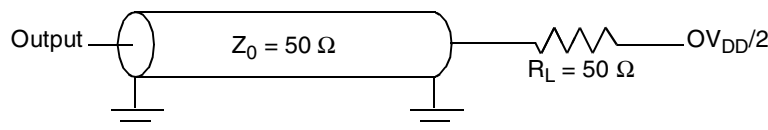
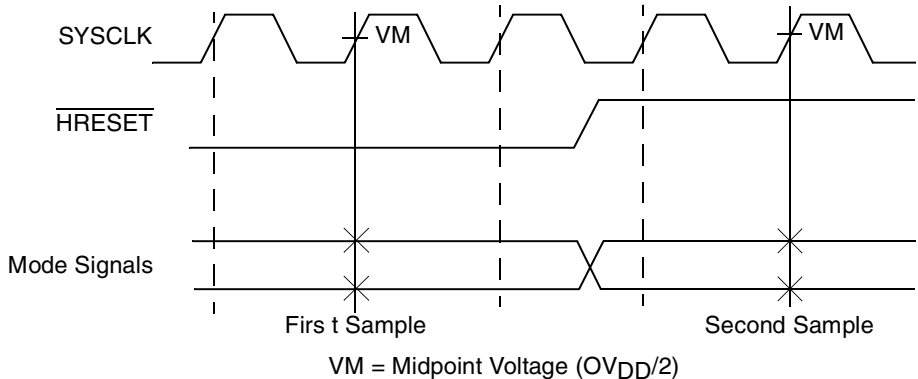
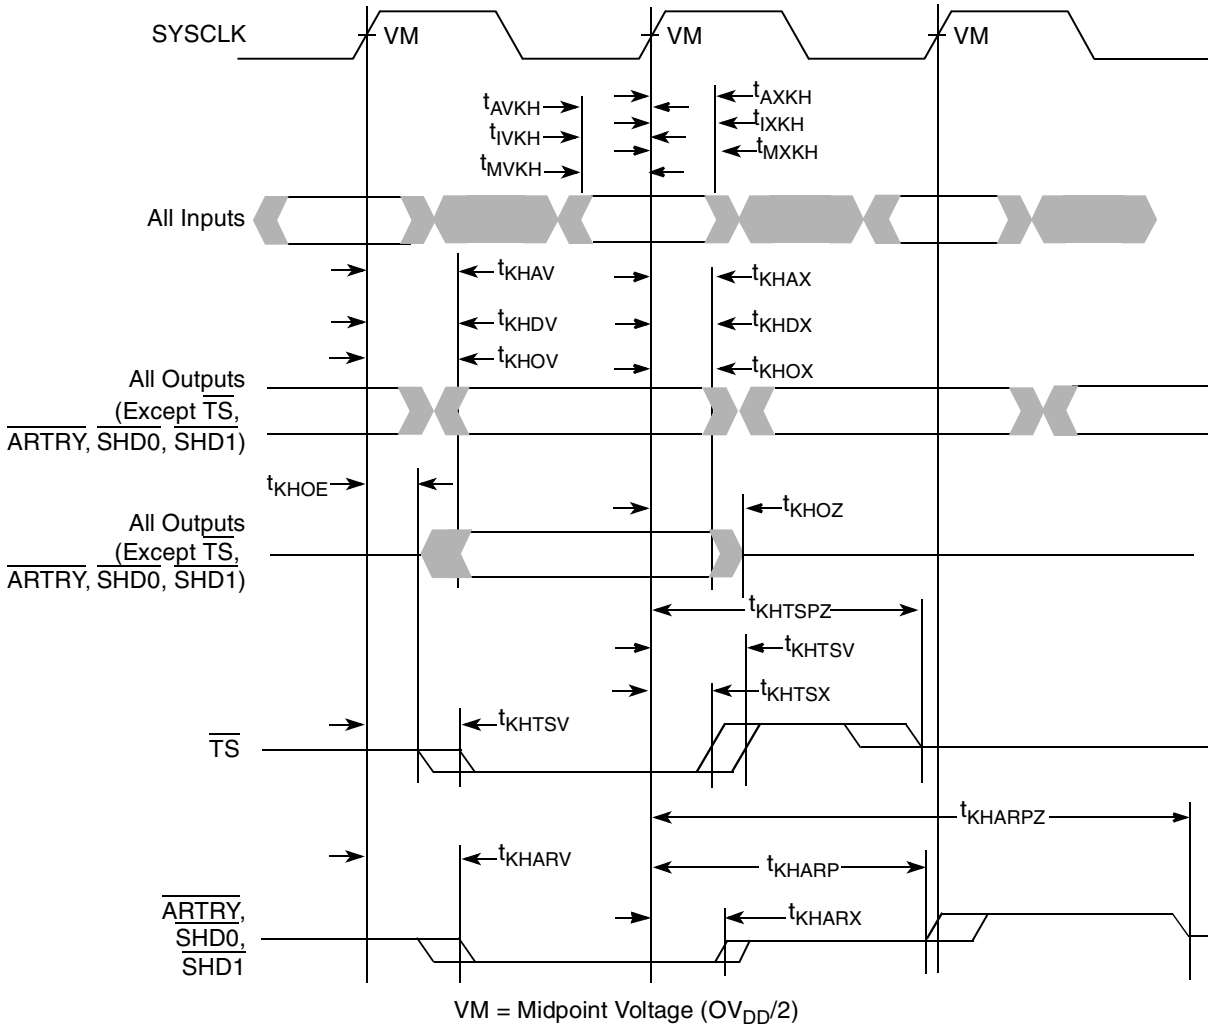

Figure 4. AC Test Load
Figure 5. Mode Input Timing Diagram
Figure 6. Input/Output Timing Diagram
Table 9 provides the processor bus AC timing specifications for the MPC7455 as defined in Figure 4 and Figure 5. Timing specifications for the L3 bus are provided in Section 5.2.3, “L3 Clock AC Specifications.”
- All input specifications are measured from the midpoint of the signal in question to the midpoint of the rising edge of the input SYSCLK. All output specifications are measured from the midpoint of the rising edge of SYSCLK to the midpoint of the signal in question. All output timings assume a purely resistive 50- Ω load (see Figure 4). Input and output timings are measured at the pin; time-of-flight delays must be added for trace lengths, vias, and connectors in the system.
- The symbology used for timing specifications herein follows the pattern of $t_{(\text{signal})(\text{state})(\text{reference})(\text{state})}$ for inputs and $t_{(\text{reference})(\text{state})(\text{signal})(\text{state})}$ for outputs. For example, t_{VKH} symbolizes the time input signals (I) reach the valid state (V) relative to the SYSCLK reference (K) going to the high (H) state or input setup time. And t_{KHOV} symbolizes the time from SYSCLK(K) going high (H) until outputs (O) are valid (V) or output valid time. Input hold time can be read as the time that the input signal (I) went invalid (X) with respect to the rising clock edge (KH) (note the position of the reference and its state for inputs) and output hold time can be read as the time from the rising edge (KH) until the output went invalid (OX).
- According to the bus protocol, $\overline{\text{TS}}$ is driven only by the currently active bus master. It is asserted low then precharged high before returning to high impedance as shown in Figure 6. The nominal precharge width for $\overline{\text{TS}}$ is $0.5 \times t_{\text{SYSCLK}}$, that is, less than the minimum t_{SYSCLK} period, to ensure that another master asserting $\overline{\text{TS}}$ on the following clock will not contend with the precharge. Output valid and output hold timing is tested for the signal asserted. Output valid time is tested for precharge. The high-impedance behavior is guaranteed by design.
- According to the bus protocol, $\overline{\text{ARTRY}}$ can be driven by multiple bus masters through the clock period immediately following $\overline{\text{AACK}}$. Bus contention is not an issue because any master asserting $\overline{\text{ARTRY}}$ will be driving it low. Any master asserting it low in the first clock following $\overline{\text{AACK}}$ will then go to high impedance for one clock before precharging it high during the second cycle after the assertion of $\overline{\text{AACK}}$. The nominal precharge width for $\overline{\text{ARTRY}}$ is $1.0 t_{\text{SYSCLK}}$; that is, it should be high impedance as shown in Figure 6 before the first opportunity for another master to assert $\overline{\text{ARTRY}}$. Output valid and output hold timing is tested for the signal asserted. The high-impedance behavior is guaranteed by design.
- $\text{BMODE}[0:1]$ and BVSEL are mode select inputs and are sampled before and after $\overline{\text{HRESET}}$ negation. These parameters represent the input setup and hold times for each sample. These values are guaranteed by design and not tested. These inputs must remain stable after the second sample. See Figure 5 for sample timing.
Figure 4 provides the AC test load for the MPC7455.
Figure 5 provides the mode select input timing diagram for the MPC7455.
Figure 6 provides the input/output timing diagram for the MPC7455.